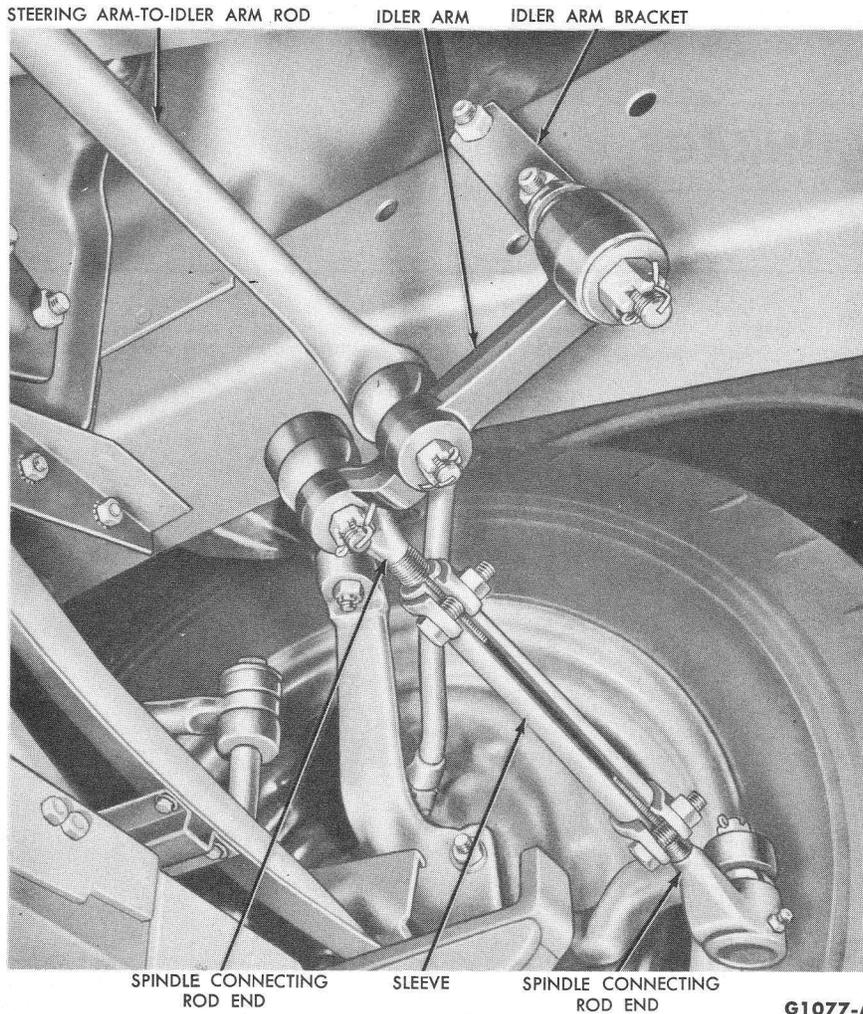

FIG. 2—Steering Idler Arm
1. Disconnect the spindle rod and the steering arm to idler arm rod from the idler arm (Fig. 2).